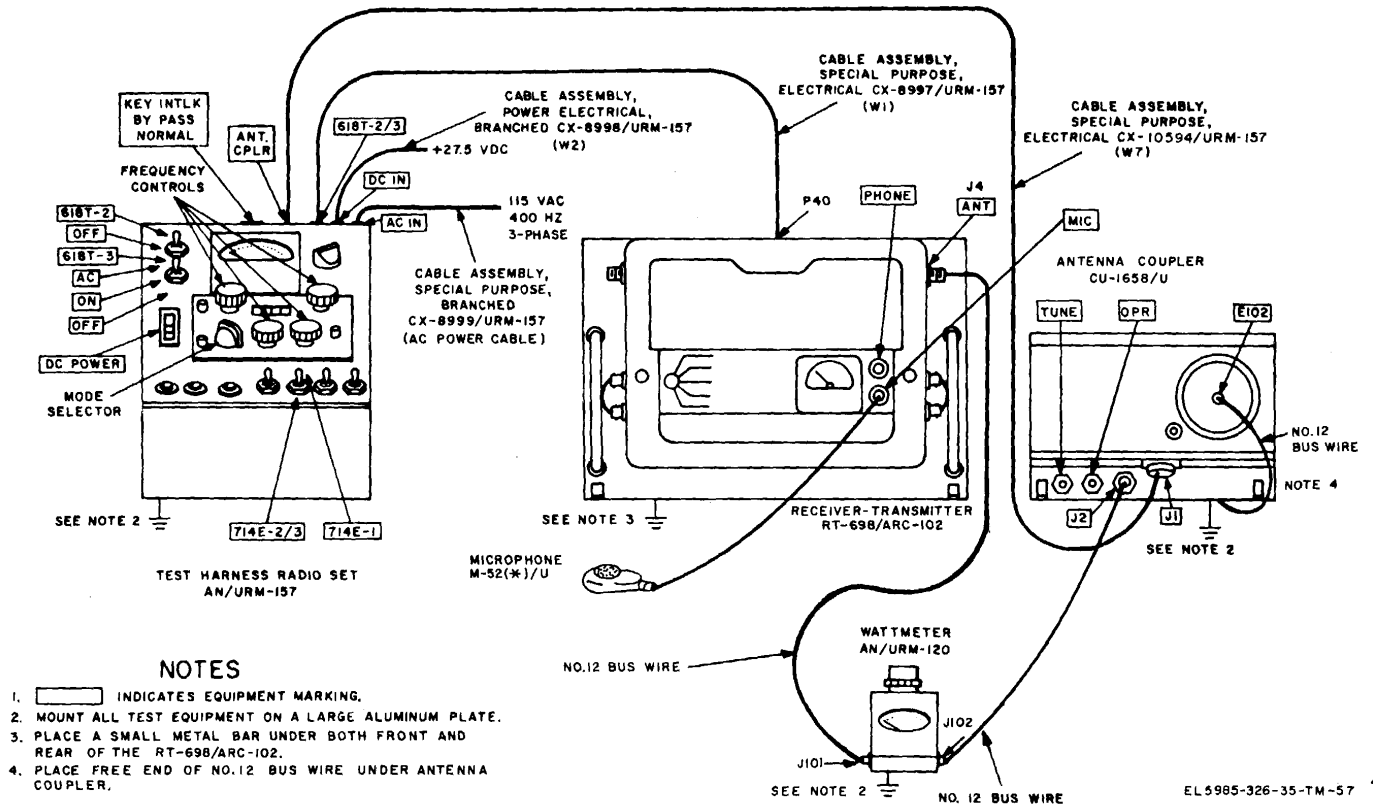

Figure 4-17. Fault circuit test setup.
(fig. 4-17)
- (1) Perform preliminary steps (para 4-48).
(2) Connect No. 12 bus wire from the receiver-transmitter ANT jack to J101 on the wattmeter (fig 4-17).
(3) Connect No. 12 bus wire from J102 on the wattmeter to J2 on the antenna coupler.
(4) Connect one end of No. 12 bus wire to E102 on the antenna coupler. Curve the other end of the bus wire and place the free end under the antenna coupler. Let the weight of the antenna coupler hold the bus wire to the aluminum plate (fig. 4-17).
(5) Make the initial settings (para 4-49).
(6) Start the equipment (para 4-50).
(7) Warm up for 1 minute.